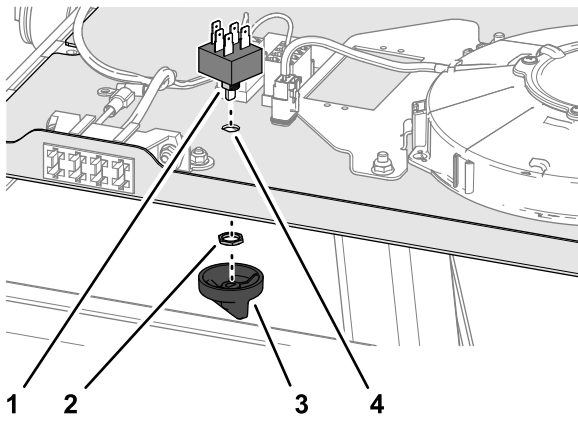

Figure 5
1. Align the flat on the outer shaft of the fan-switch shaft with the D-shaped hole in the switch panel (Figure 5).
2. Insert the fan-switch shaft through the hole in the panel and secure the switch with the jam nut (Figure 5).
3. Align the D-shaped hole in the knob with the flat on the inner shaft of the fan-switch shaft (Figure 5).
4. Press the knob onto the switch until knob is fully seated (Figure 5).